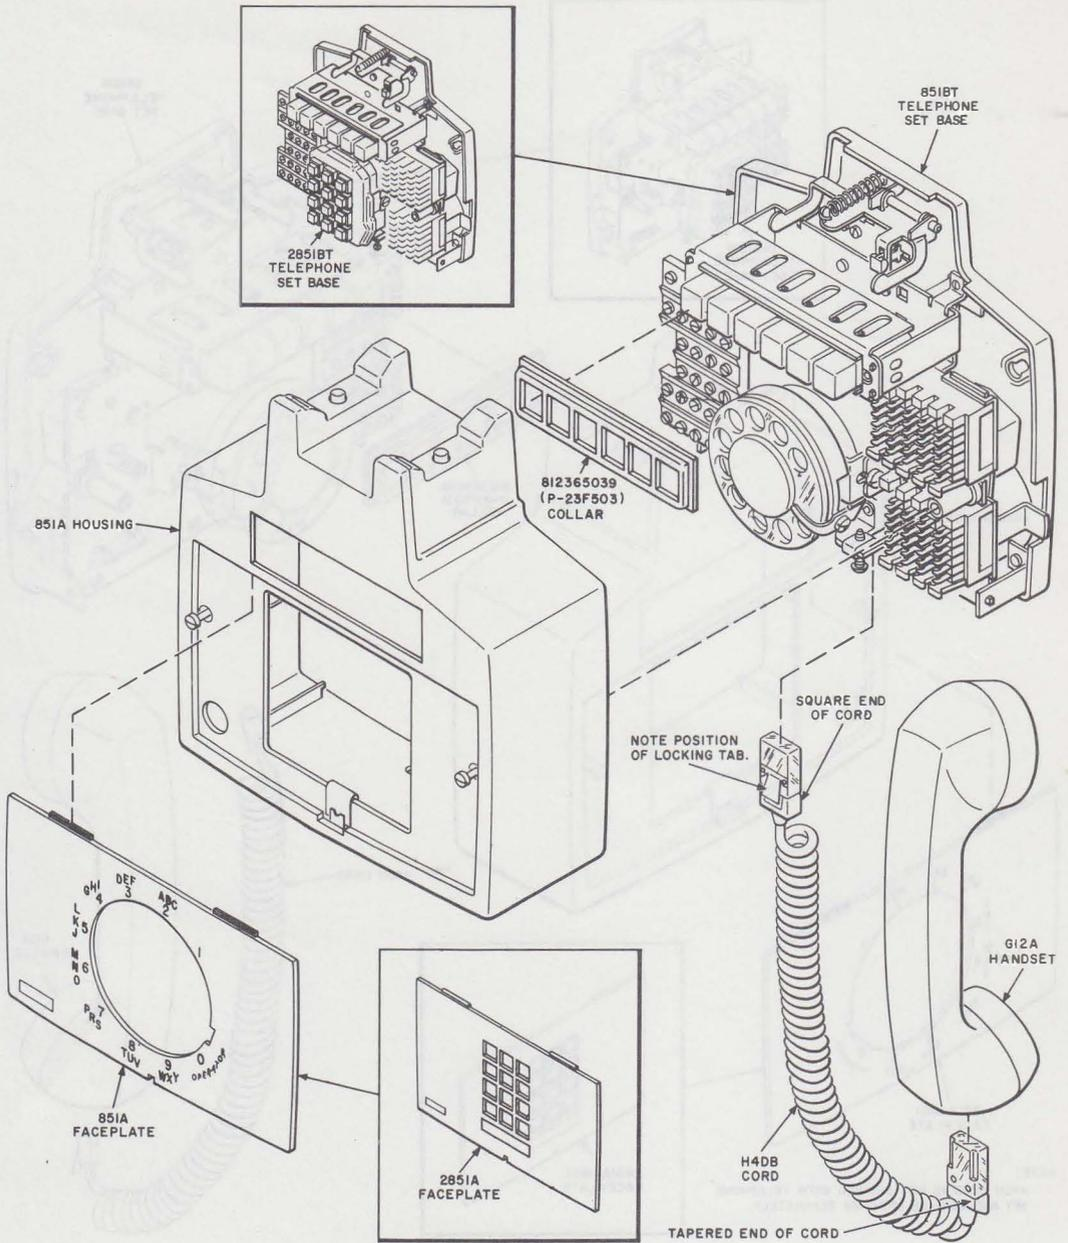

Fig. 19—Station Modular Arrangement, 851BT and 2851BT Telephone Set Showing Current 851A Housing and Base Plate
**3.18** Install H4DB handset cord in early production models of 851- and 2851-type telephone sets by inserting the end of the cord having the tapered plug into the handset and the square end into jack on bottom of set. Spring locking tab should face away from wall to bottom of set (Fig. 19).